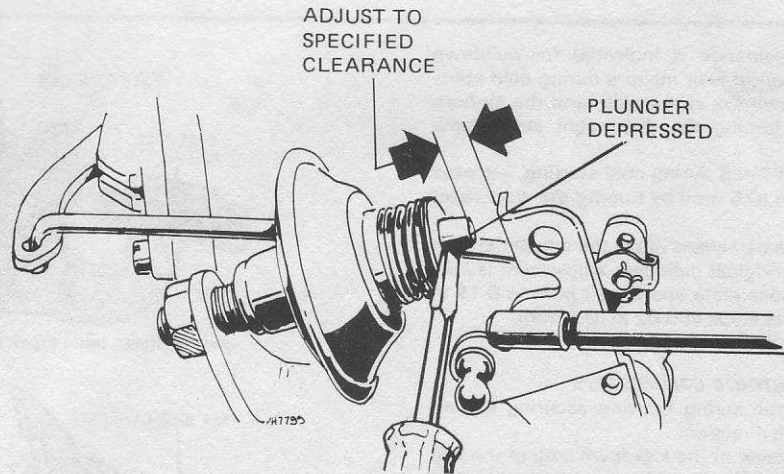

Fig. 3.27 Anti-stall dashpot adjustment (2100 carburetor) (Sec. 15)
- 6 Hold the throttle in the closed position and depress the plunger with a screwdriver, then measure the clearance between the throttle lever and the plunger (Fig. 3.27).